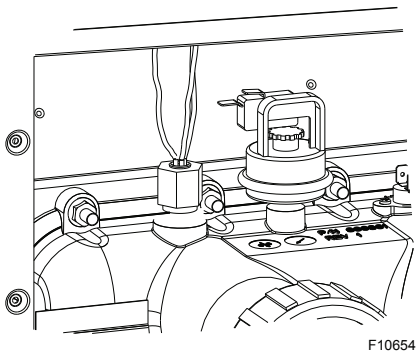

Figure 34. Digital Temperature Sensor Location
- Digital Models:** Remove the thermostat temperature sensor by loosening the compression fitting nut. Re-route the sensor to left side of the heater. See **Figure 34**.
- Remove (12) nuts holding the inlet/outlet and return headers to the tube sheets. Clean off tube sheet area where the gasket seats. Also clean off the header and the gasket. Apply a non-petroleum-based lubricant to the gasket such as Aqualube. Re-attach the headers to the opposite sides, making sure they are installed in an upright position. Do not over-tighten. Torque should not exceed 7 ft/lb. See **Figure 34**.